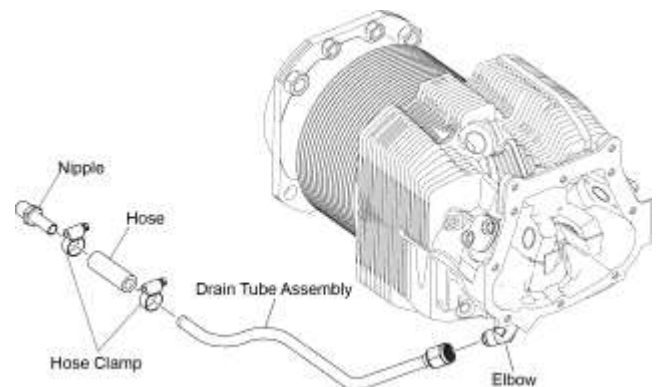

Figure 13
- (1) Remove the hose clamps (Figure 13) from hose attached to the oil drain tube assembly.
- (2) Disconnect the hose from the nipple.
- (3) Disconnect the drain tube fitting from the engine cylinder.
- (4) Remove and discard the hose (Figure 13).
- (5) Remove the drain tube assembly from the cylinder.
- (6) Examine the drain tube for cracks or damage.
- (7) Replace a cracked or damaged drain tube assembly.